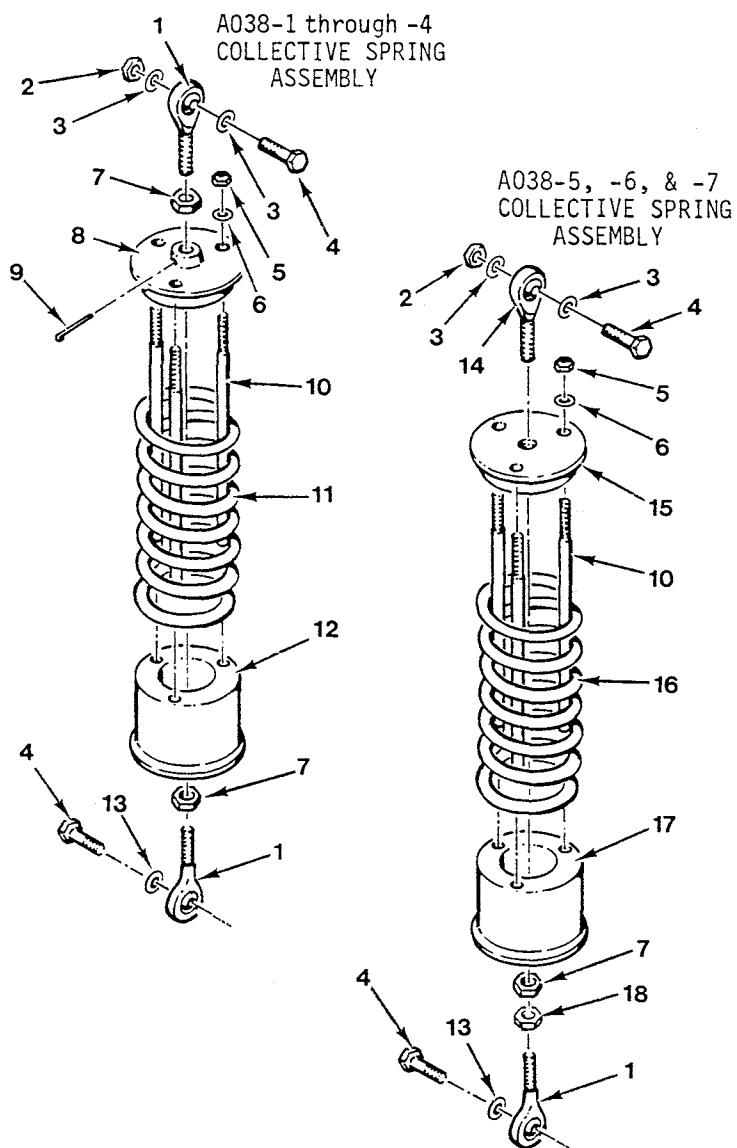

FIGURE 8-8 COLLECTIVE SPRING
8.220 Collective Spring Assembly (See Figure 8-8)